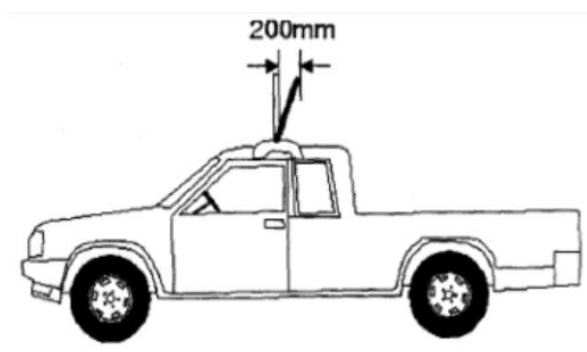

Figure 2: maximum tilt of a warning sign for a pilot vehicle
- A warning sign on a pilot vehicle must not lean back so that there is more than 200 millimetres measured horizontally from the top of the sign to a vertical line running through the bottom of the sign (see figure 2). - s51